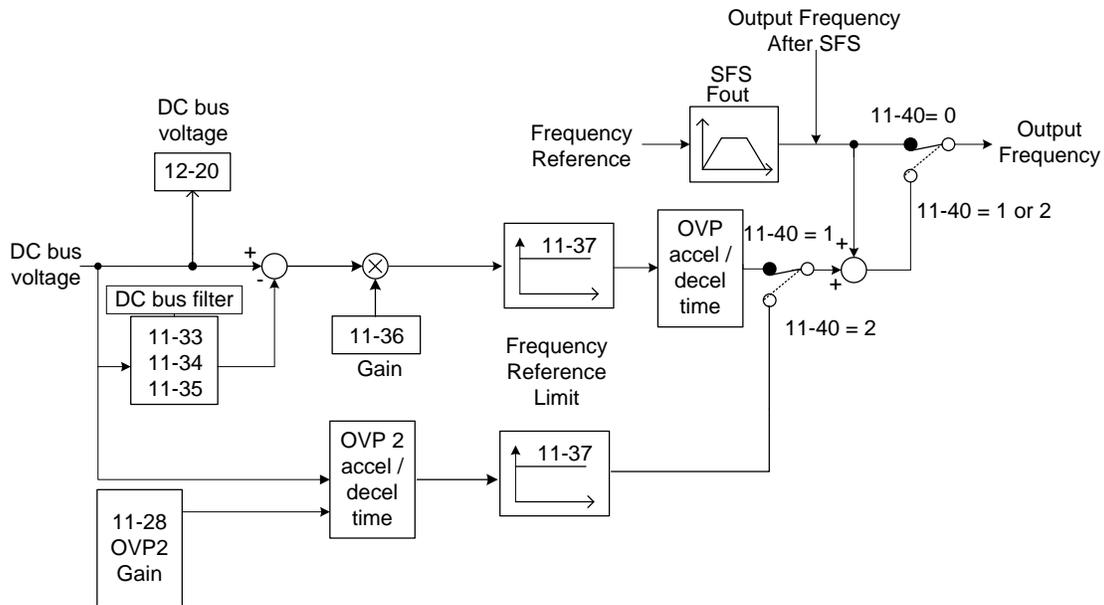

Figure 4.4.92 OVP operation
When the speed reference is reduced, the motor will start to decelerate. When the inverter is operating at a fixed output frequency and excessive regenerative energy back to the inverter is detected the inverter will accelerate the motor in order to reduce the DC-bus voltage. Refer to figure 4.4.92.
3) When the inverter is stopped, the deceleration rate can be set with parameter 00-15 (Tdec1). In case the DC voltage is too high, the inverter will decelerate based on the OVP deceleration time as shown in Figure 4.4.92.
The process of OV prevention mode 2 is the same as that of OV prevention mode 1 but it strengthens more the part of DC BUS over the deceleration stop voltage of OV prevention (11-39) in Fig.4.4.92. It can accelerate frequency compensation to avoid OV protection by increasing frequency gain of OV prevention 2 (11-28).